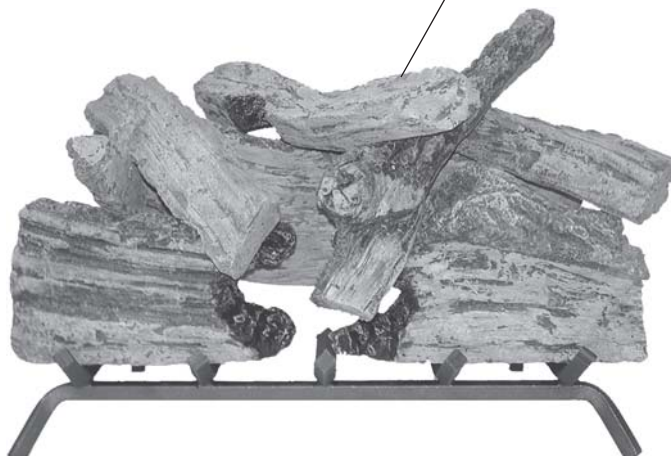

Figure 109 - Installing Top Center Log (#7)
9. Lay Top Center Log #7 across log #3 with front end resting on Log #5. See *Figure 109*.